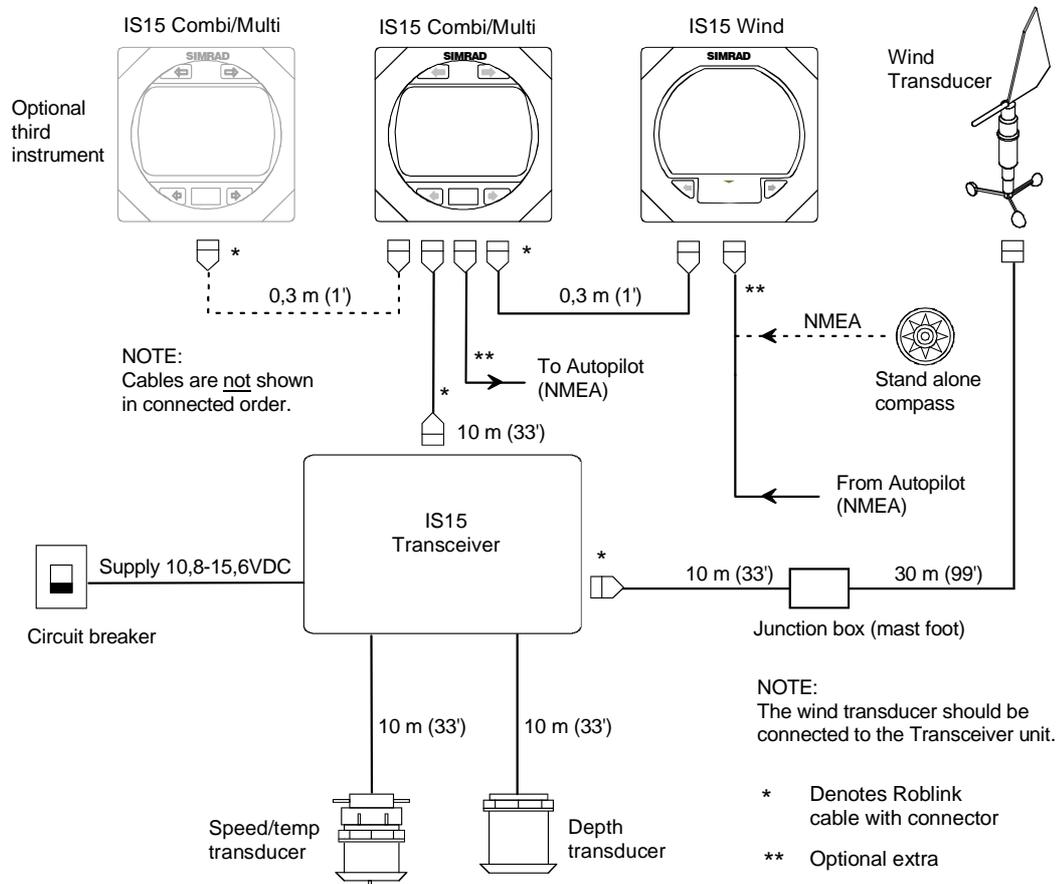
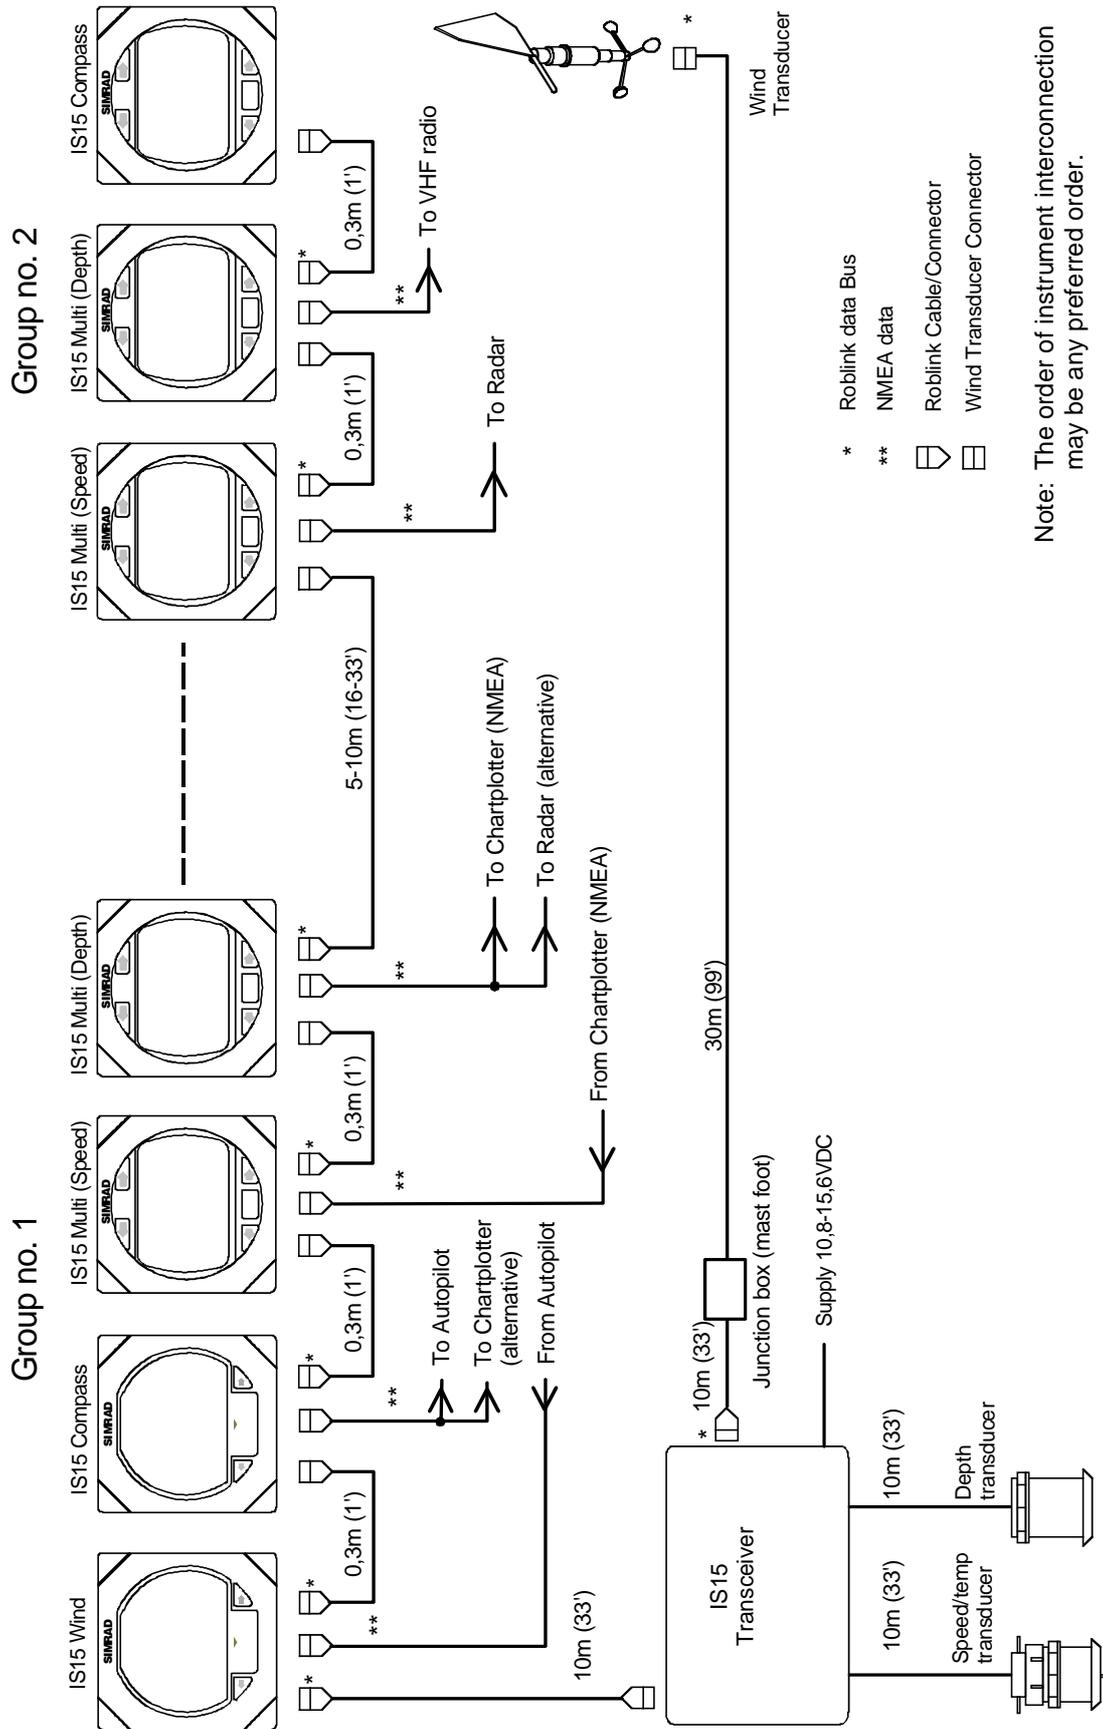

Figure 5-4 IS15 Wind – IS15 Combi (Tri-data) System layout
Figure 5-5 IS15 Instrument system – Cabling diagram
3. *When connected to an IS15 Tri-data system as shown on Figure 5-4 speed is available on Roblink format and heading on NMEA format.*
An example of a fully equipped IS 15 system is shown in Figure 5-5. See also the Interconnection – Principle diagram Figure 6-5 in the IS15 General Manual.
This will provide the chart plotter also with wind information if the Wind/Tack instruments are part of the IS15 system, see Figure 5-4 and Figure 5-5. (Connect the chart plotter input to the optional instrument in Figure 5-4).